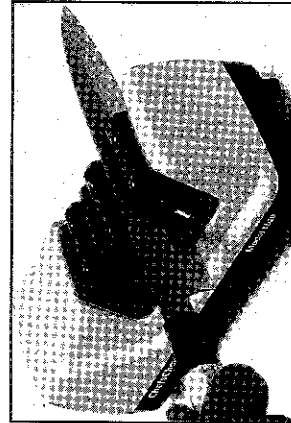

Figure 12. Strop and Polish edge of traditional Japanese knife in Stage 3. Follow instructions carefully.
- a. Make five to eight (5-8) slow pulls, 3-4 seconds each, only in the left slot of Stage 3 (Figure 12) and then proceed to remove the burr in step b below.
- b. Make one (1) regular pull in right slot of Stage 3 along the back side of the edge. (Pull about 3-4 seconds.)